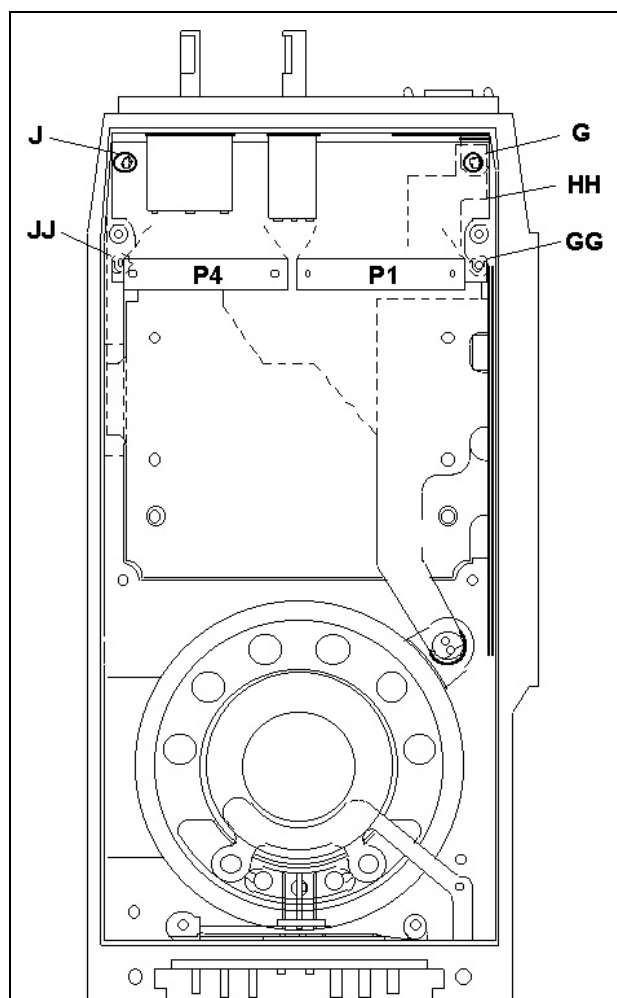

Figure 5 - Keypad Flex and LCD Board Access
To remove the Keypad Flex, first remove the UDC Flex/UDC/Monitor Button/PTT Switch assembly as previously stated. Next remove the knobs using the hex driver. Unscrew the two (2) screws securing the top panel and lift and remove the panel. Lift the Emergency Button Board by carefully unplugging J6 from P6. With a spanner wrench, remove the nuts securing the volume and channel controls and carefully slide the controls inside the radio. Unscrew the two (2) screws (G and GG) and remove the J10/P10 Zebra strip securing plate (HH). See Figure 5. The Keypad Flex is now free for removal.
After the top areas of the Keypad Flex have been freed as previously outlined, the LCD Board can be removed. At this point is the disassembly process an earlier Front Cover Assembly has two (2) screws on the left side as viewed from the back (J and JJ) and a later assembly has a single screw in the upper left-hand side (J). See Figure 5.